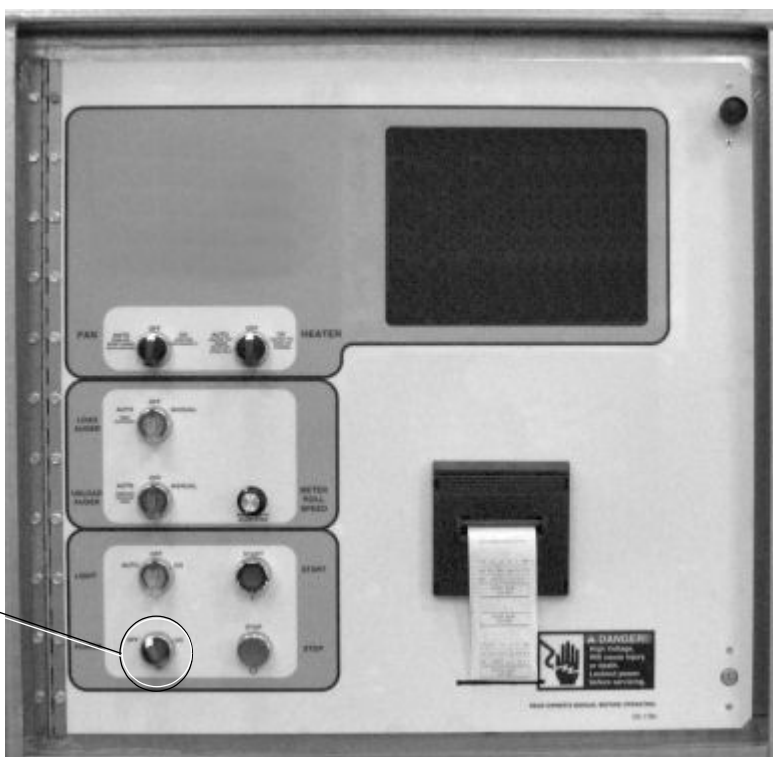

Fig. 1-A Control Panel
2. Locate the USB port on the bottom of the Dryer Control Computer (see figure 1-B). The Dryer Control Computer is on the back side of the dryer control panel.